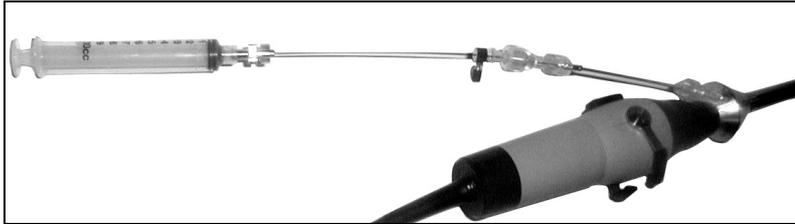

Fig. 13. UA0033 flexible biopsy system with syringe attached
11. Attach a sterile syringe to the needle connector, see Fig. 13.